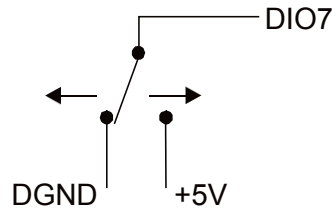

Figure 8. Schematic showing DIO7 detecting the state of a switch
When you configure the digital bits for input, you can use the digital I/O terminals to detect the state of any TTL level input; refer to Figure 8. When the switch is set to the +5 V USER input, DIO7 reads *TRUE* (1). If you move the switch to DGND, DIO7 reads *FALSE* (0).